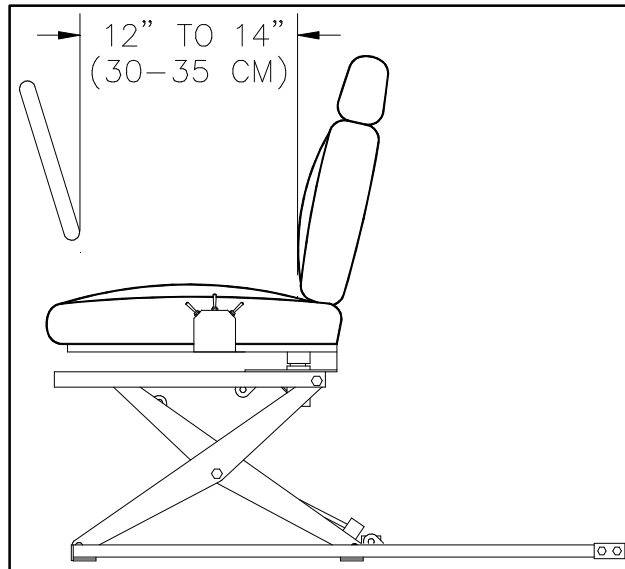

FIGURE 2-5: WHEEL-TO-SEAT CLEARANCE
- f. Refer to **Figure 2-5**. If applicable, adjust vehicle tilt-steering wheel to straight (not tilted up or down) driving position. Measure distance from bottom of steering wheel to lower-front edge of seat-back. Position Power Seat Base so distance is equal to 12 - 14 inches (30 - 35 cm).